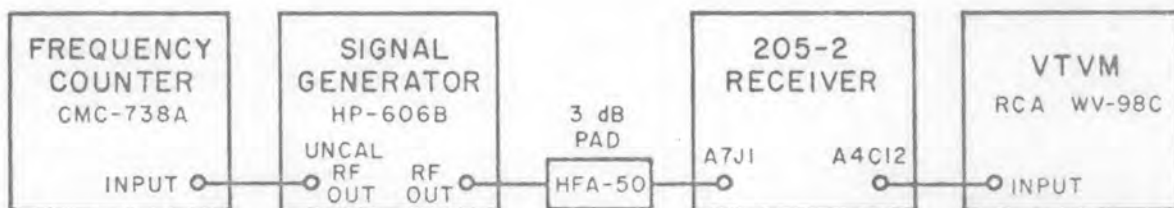

Figure 4-2. Test Setup, IF Gain and Bandwidth Check
- (4) Place the IF BANDWIDTH switch in the 1 MHz position.
- (5) Connect the equipment as shown in Figure 4-2.